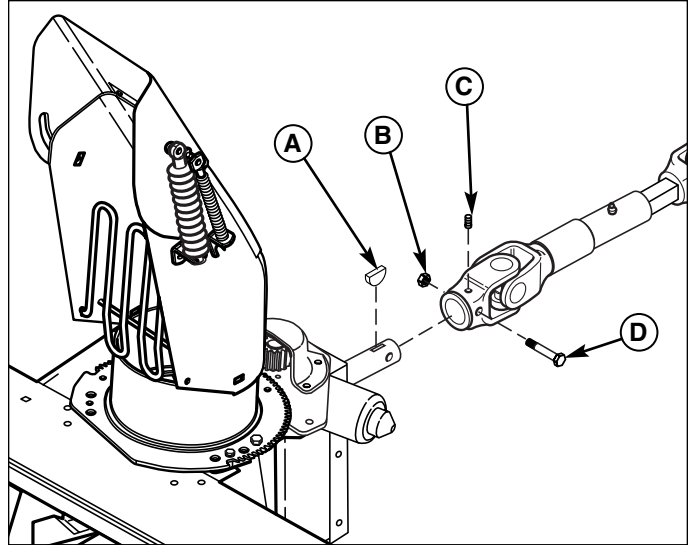

Figure 16. Install Drive Shaft
2. Install the key (A, Figure 16) into the input shaft key-way.
3. Attach the drive shaft to the input shaft (see Figure 16).
4. Secure the drive shaft using a 1/4-20 x 1-7/8" cap-screw (D) and center-lock nut (B).
5. Secure the key with an hex socket set screw (C).